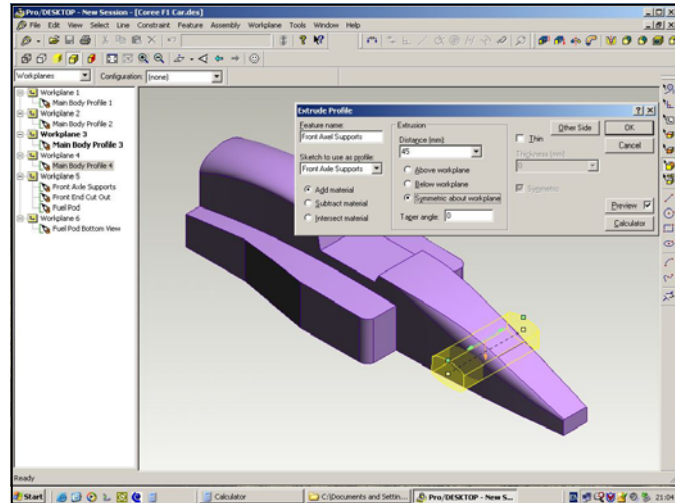

Figure 15 - Creation of the Front Axle Support.
- Your screen should look like the one shown in Figure 15. Click OK.